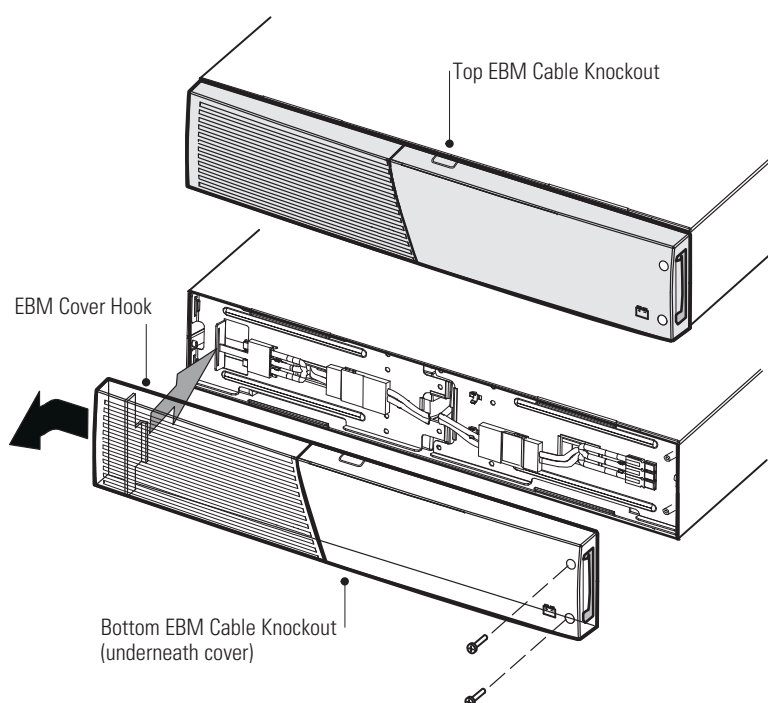

Figure 12. Removing the EBM Front Cover
2. Remove the front cover of each EBM (see Figure 12).
3. For the bottom (or only) EBM, remove the EBM cable knockout on the top of the EBM front cover. See Figure 12 for the location of the top EBM cable knockout.
4. If you are installing more than one EBM, for each additional EBM remove the EBM cable knockout on the top **and** bottom of the EBM front cover. See Figure 12 for the location of the EBM cable knockouts.
To replace the cover, verify that the EBM cables are routed through the EBM cover knockouts, then slide the cover from the left to the right until it connects with the cover hook near the left side of the EBM cabinet. Reinstall the two screws on the right side of the front cover. For reference, see Figure 12 on page 19.